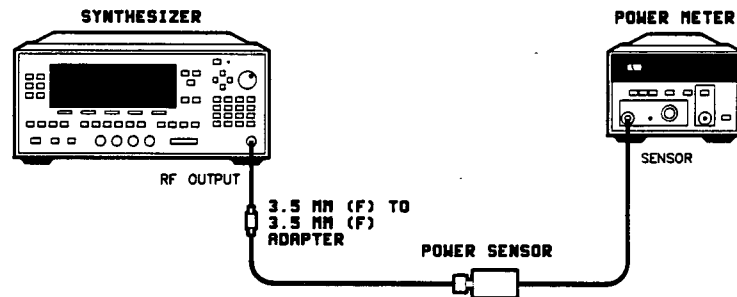

Figure 3-38. Square Wave Symmetry Adjustment Setup
1. Turn on the equipment shown in figure 3-38 and let them warm up for at least one hour.
3. Connect the equipment as shown in figure 3-38 and preset the instruments.